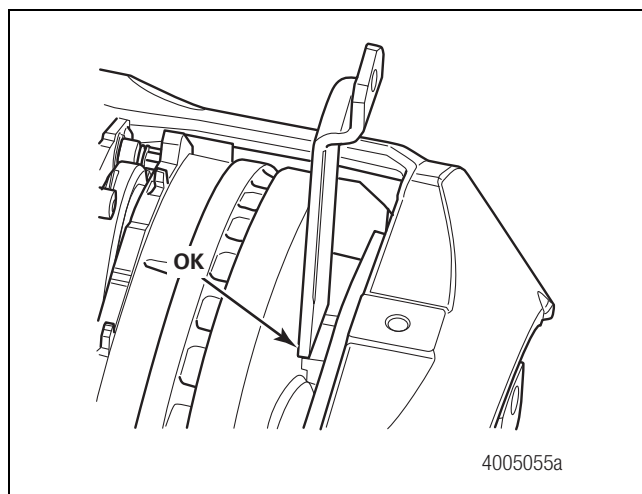
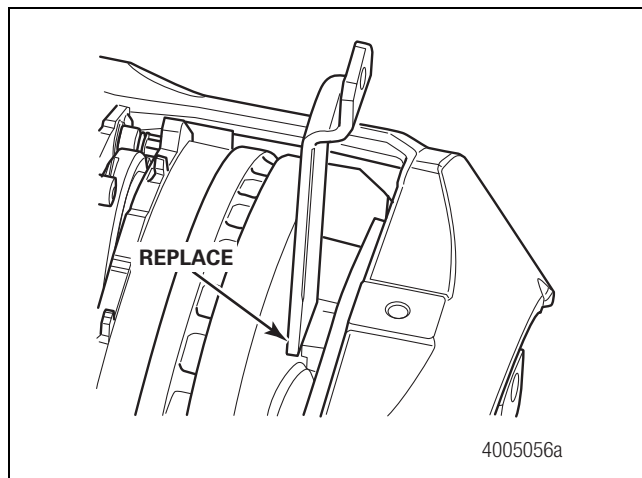

Figure 6.8
Figure 6.9
2. Check for uneven rotor wear. Using the pad retainer as a gauge, place it between the rotor surface and carrier pad abutment. Check both the inboard and outboard sides of the rotor. Figure 6.8 and Figure 6.9.